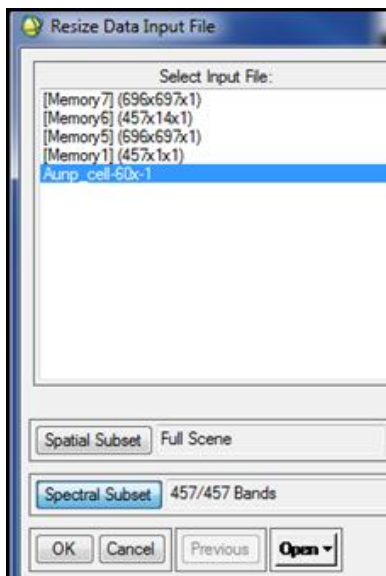

Figure 5.13b. Resize Data Input file window
- Click the Spectral Subset radio button (Figure 5.13b).